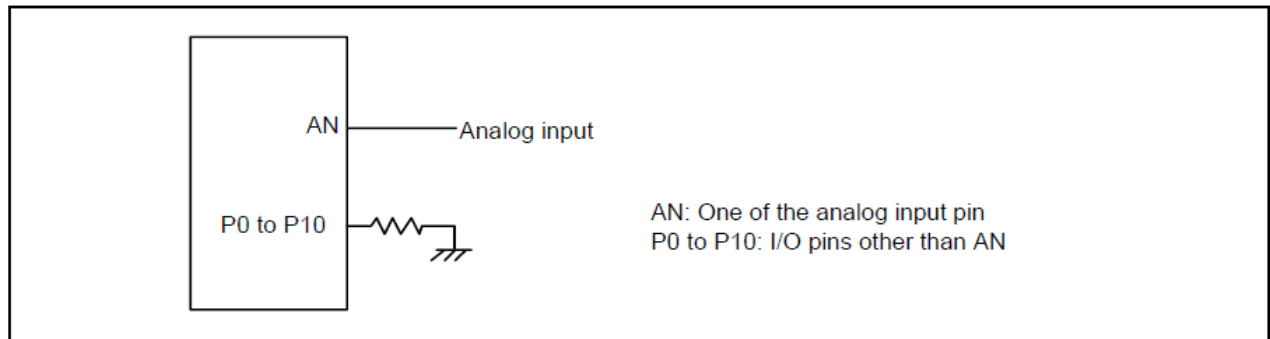

Figure 27: A/D Accuracy Measure Circuit
**Flash memory rewrite disabled. Except for the analog input pin, set pins to be measured as input ports and connect them to VSS. See Figure 27.
***Flash memory rewrite disabled. Except for the analog input pin, set pins to be measured as input ports and connect them to VSS. See Figure 27